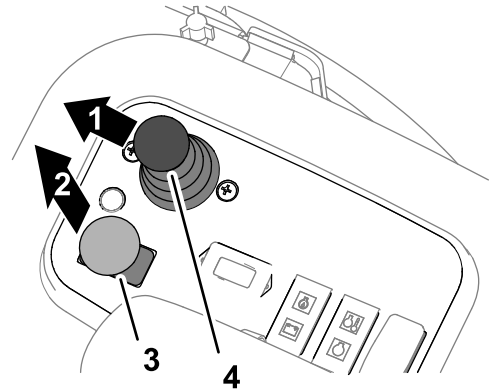

Figure 98
3. Move the lower mow/raise control lever forward (Figure 98).